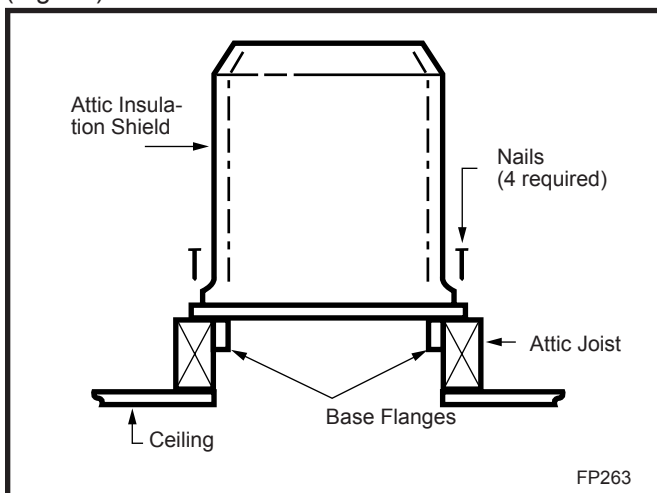

Fig. 17 Attic shield installation (Canadian requirement).
**CAUTION: When installing a fireplace in an insulated enclosure, be sure all required air spaces are maintained. (Page 13, Fig. 17)**
In Canada, an attic insulation shield is required to prevent attic insulation from contacting the chimney section. **NOTE:** If the attic insulation shield is used, the firestop is not required in the attic installation. Framing dimensions for the chimney hole should measure 17½" x 17½" (445 x 445 mm). An attic shield **MUST** be installed on top of attic joists (above the floor level). (Fig. 17)